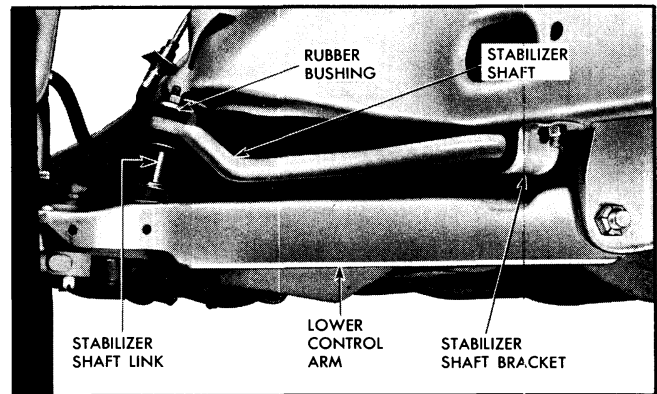

Fig. 3-27 Stabilizer Shaft Assembly
1. Disconnect both links from stabilizer shaft by removing nut from bottom of link and rotating link up from lower control arm (Fig. 3-27).